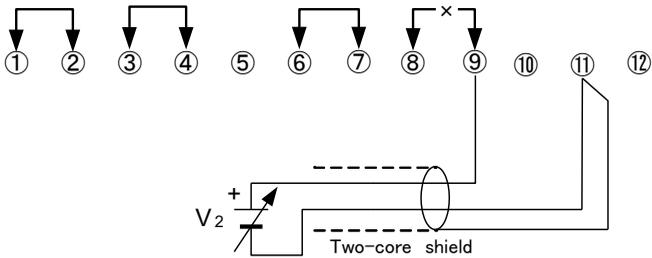

Fig. 11
- 2) Remove the short bar ⑧—⑨ and connect external voltage V_2 across ⑨ and ⑪ as shown Fig. 11. Be very careful about the polarity.